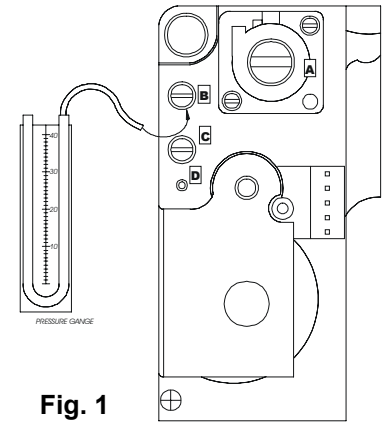

Fig. 1
- connect a gauge into the pressure socket **B** (fig.1).
- remove the aluminium protective cap from screw **A** (fig.1) counter-clockwise;
- once ignited, set the "**P1 MAX. HEAT**" trimmer (fig.2) to the maximum and turn screw **A** (fig.1) on the stabiliser clockwise to increase pressure or counter-clockwise to decrease pressure (see the table below for calibration pressures);